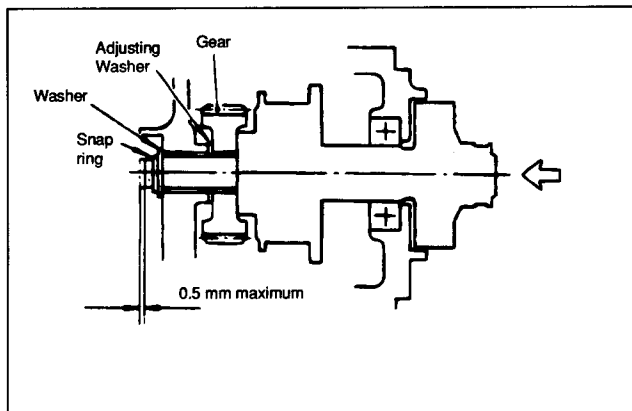

Figure 46
2. Set the pinion shaft end play (thrust gap) to 0.5 mm (0.02 in.) or less by inserting an adjusting washer between the center bracket and reduction gear (Fig. 46).